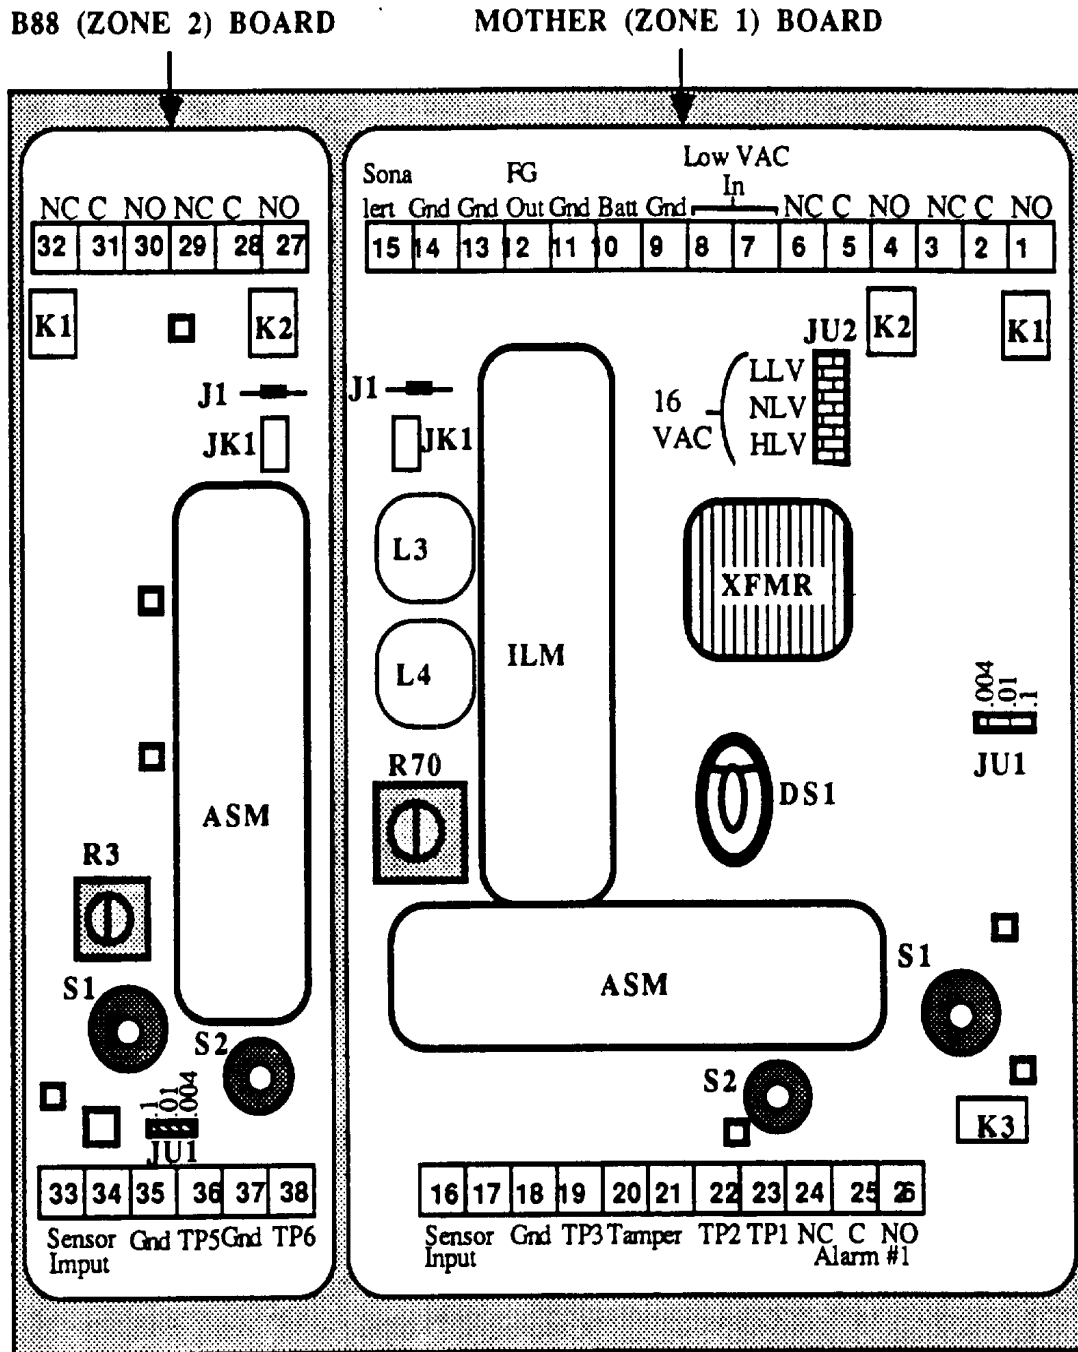

Figure 6-3. Mother Board and B88 Board
See Figure 6-3 for location of connection and adjustment points.
1. While referring to Figure 6-3, set TP selector switch to T6.
2. Adjust R3 for a zero (0) reading on the front panel meter (see Table 6-1).